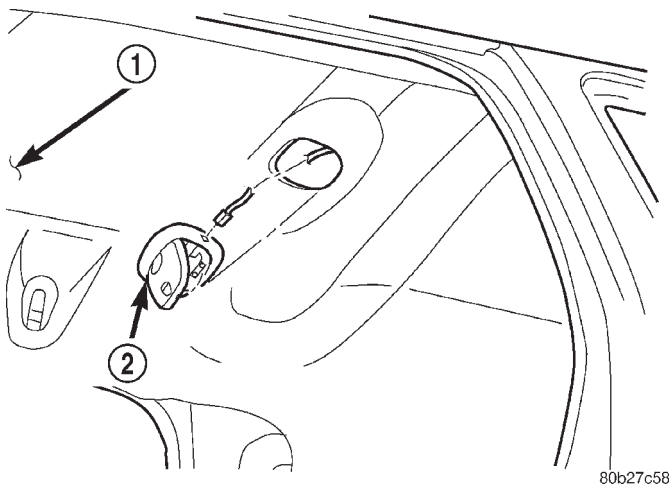

Fig. 13 Dome/Reading Lamp
- (2) Allow the lens to hang down this will disengage the forward edge of the lamp from the headliner.
- (3) Pull the forward edge of the lamp down and slide the lamp forward.
- (4) Separate the lamp from the headliner.
- (5) Disengage lamp wire connector from body wire harness.
- (6) Separate lamp from vehicle (Fig. 13).